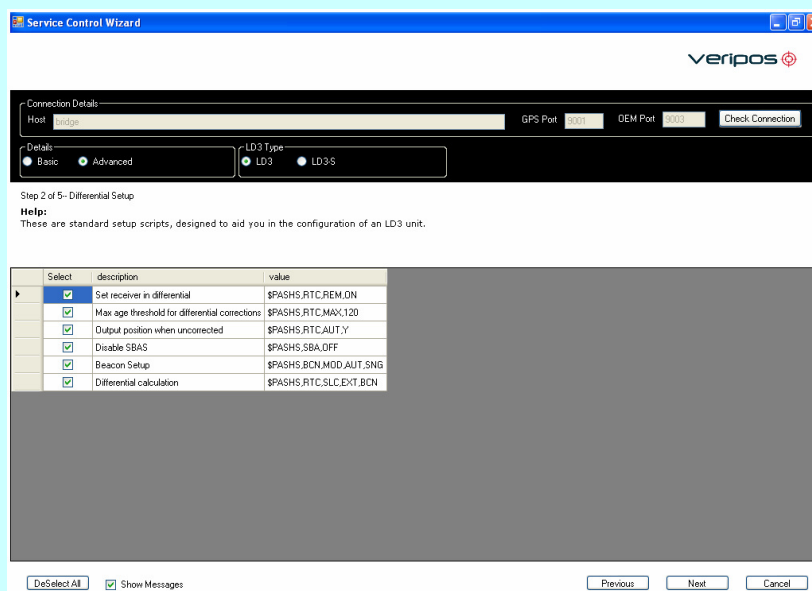

Fig 14 Commissioning Tool – Advanced Screen 2
5.6 The commissioning tool now moves onto Advanced Screen 2 as in Fig 14